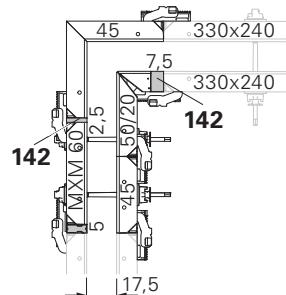

Fig. C1.02
- Fig. C1.02 + C1.05a + C1.05b